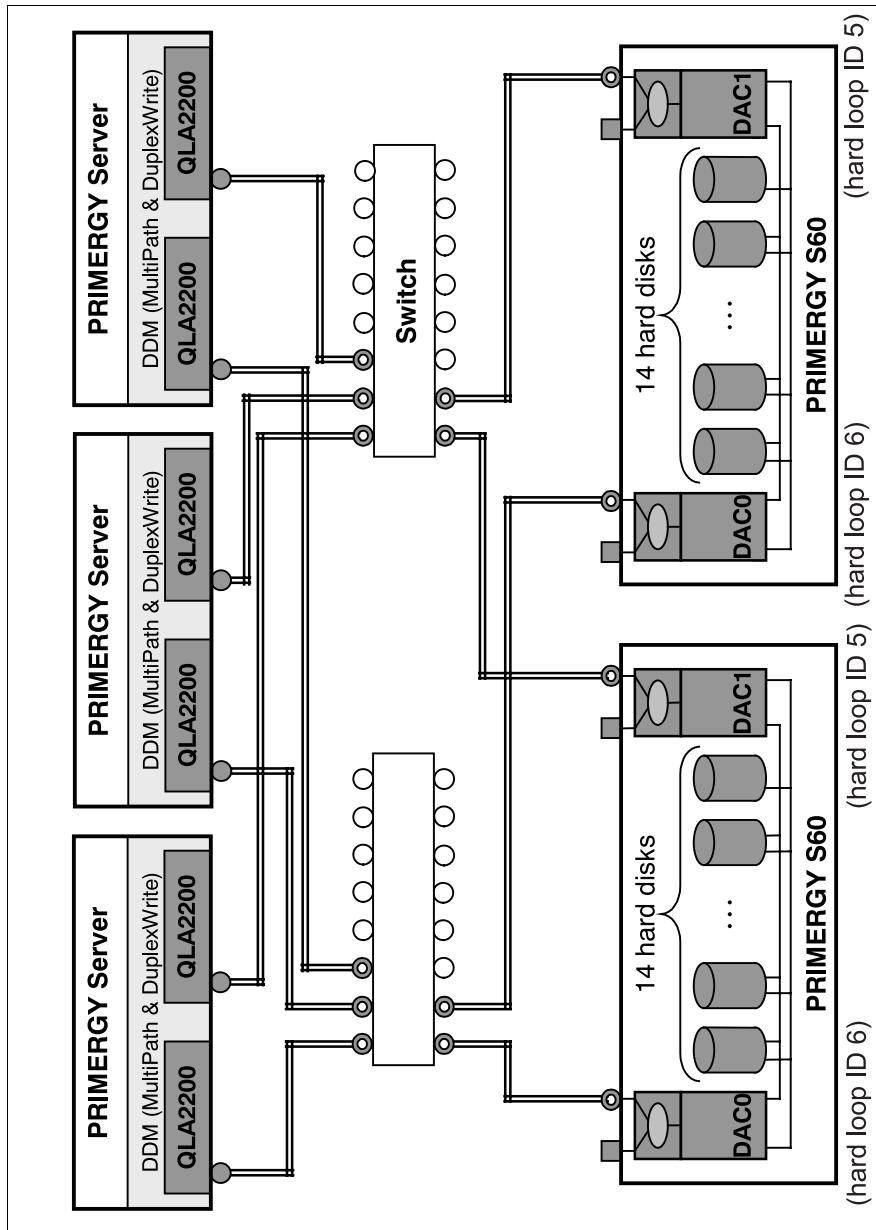

Figure 30: SAN Mapping with MultiPath and DuplexWrite in Switch Configuration
- QLA 2200 settings: see table 9 on page 51, Submenu 1.6.3: *Connection Options/Point to Point Only (1)*
- Loop IDs (figure 30 on page 46) for FFx, HBAs disabled